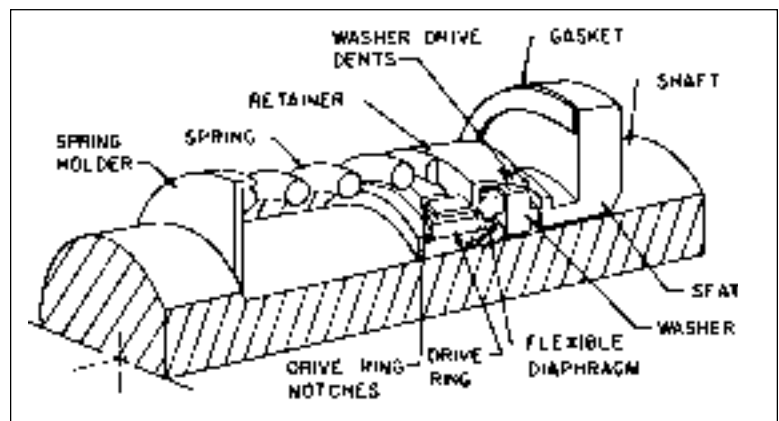

Figure 3 – Mechanical Seal Assembly
5. Remove seal subassembly (Figure 3) and gasket from under the stationary seat.
8. Check the mechanical seal. Referring to (Figure 3), the flexible diaphragm must show evenly above the drive ring, and the drive lugs on the retainer must engage the drive ring to their full length. Adjust the mechanical seal if necessary.
9. Install the outer retaining ring (13).
11. Install bearing retainer (17).
12. Install hex bolts (18) and torque per Table 2.